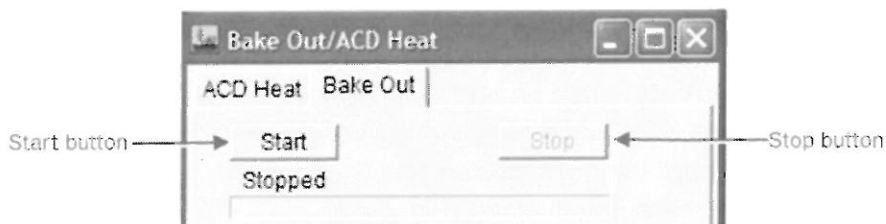

Fig. 6.14 Starting bake out (Bake Out/ACD window)
4. Make sure that the LENS switch (L2-③) is ON. Clicking **Start** in the Bake Out/ACD Heat window will start the bake out. (Fig. 6.14)